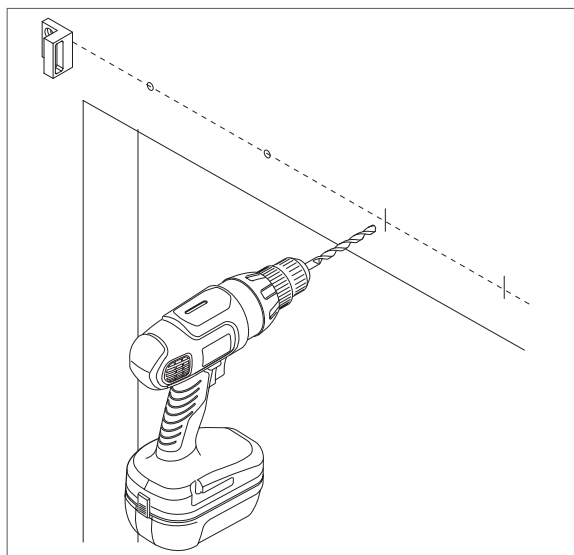

Figure 5
7. Measure and drill holes for center spacer brackets along the line drawn above the doorway. (Figure 5).